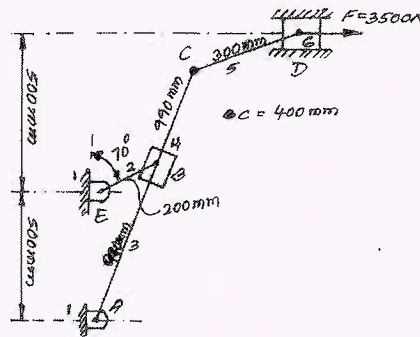

Fig. Q1 (b)
- b. For the static equilibrium of the quick return mechanism shown in Fig. Q1 (b). Find the required input torque  $T_2$  for a force of 3500 N on the slider. Angle of EB with the vertical is  $70^\circ$ . The impending motion of the slider is to the left. (12 Marks)